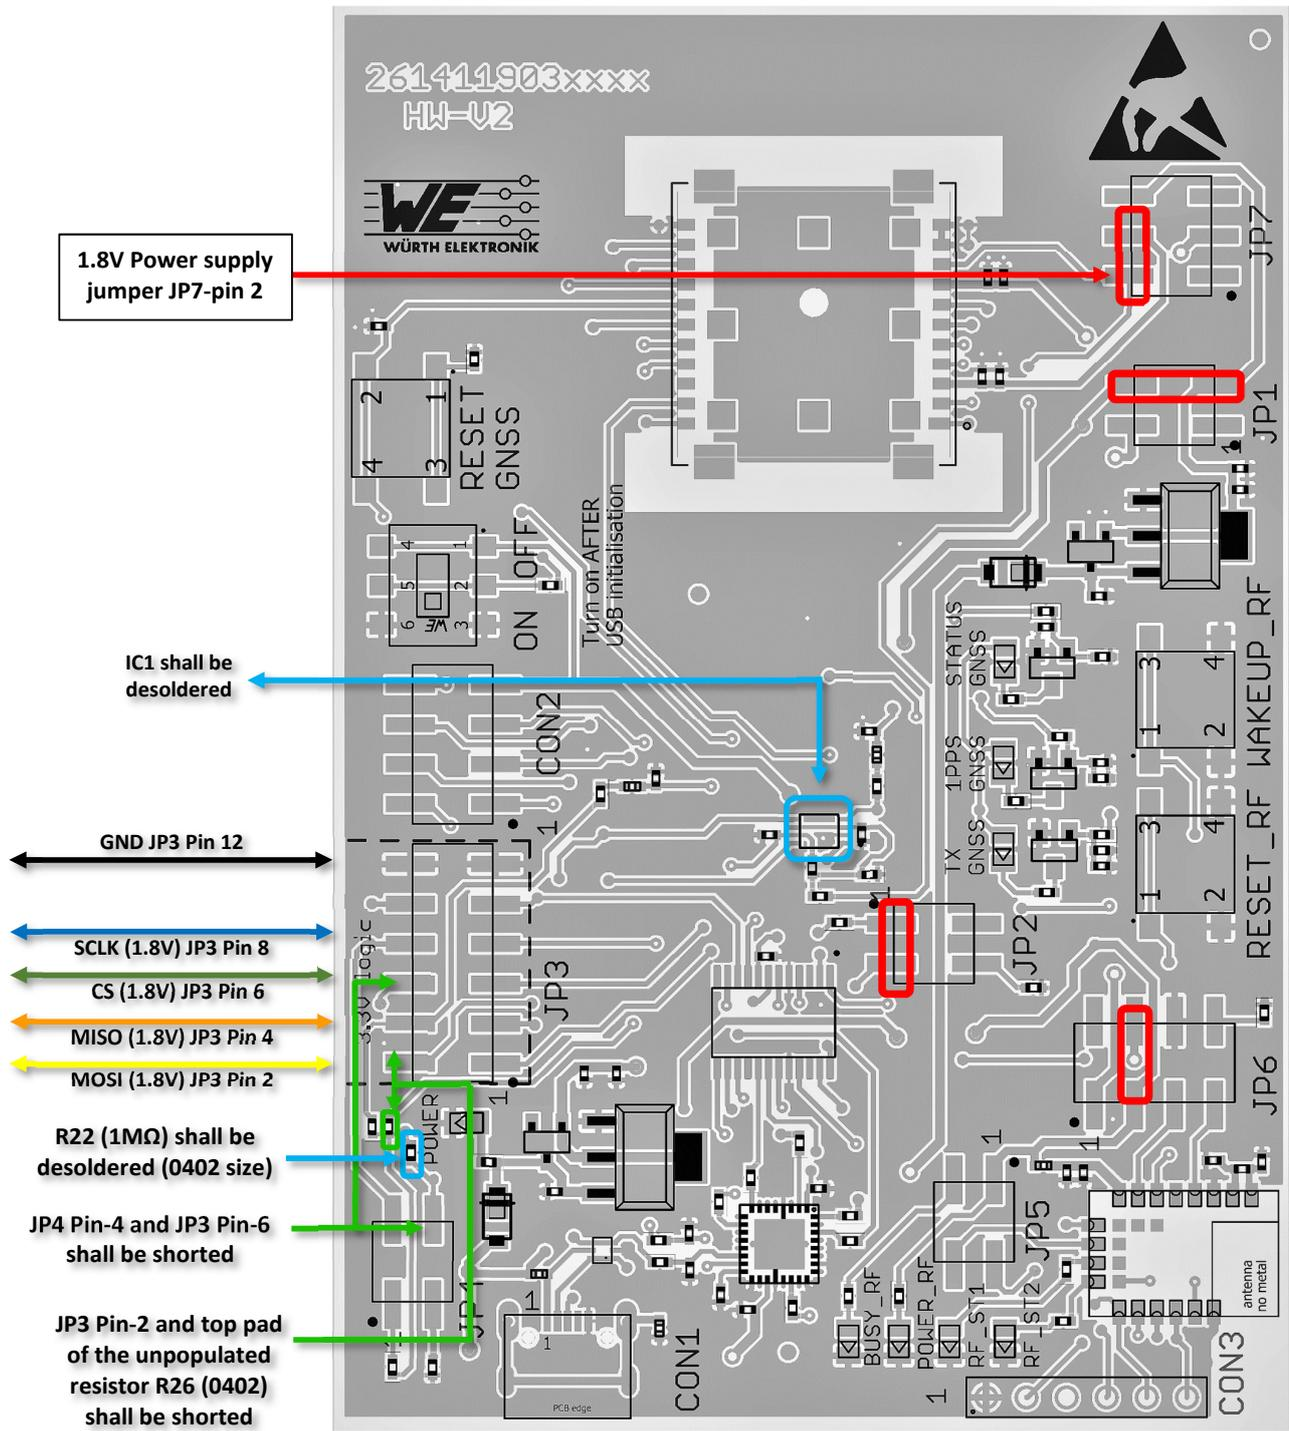

Figure 18: SPI modifications on evaluation board plan (see also real image in Figure 20)
Figure 18 illustrates the necessary modification, including correct jumper settings, to be executed on the Erinome-I evaluation board for SPI communication:
- CS and MOSI shall be shorted directly to respective module pins. These modifications are shown using green arrows in Figure 18, 19 and 20.
Apart from the hardware modifications listed above, jumpers shall be set according to Figure 18.